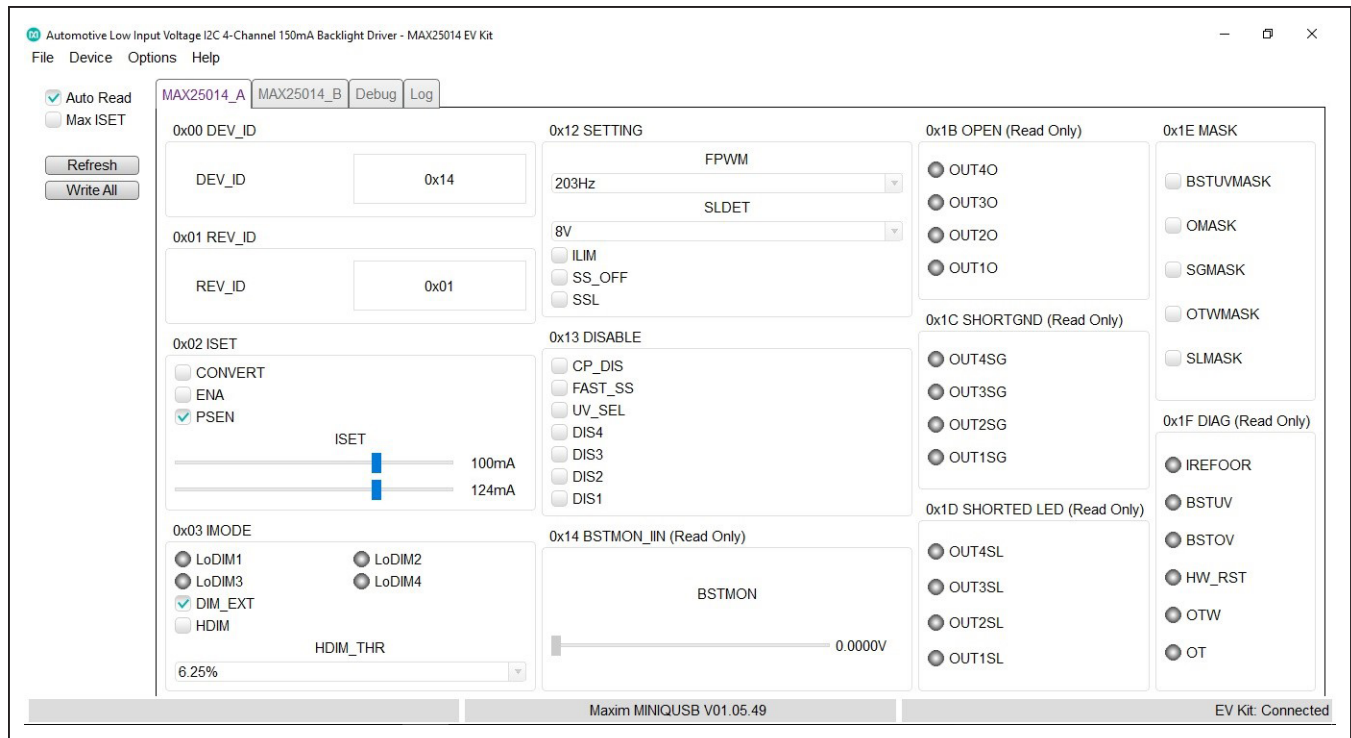

Figure 1. MAX25014 Evaluation Kit Software (GUI)
- 18) Verify that the status bar in the bottom-right corner of the GUI displays **EV Kit: Connected**, as shown in Figure 1.